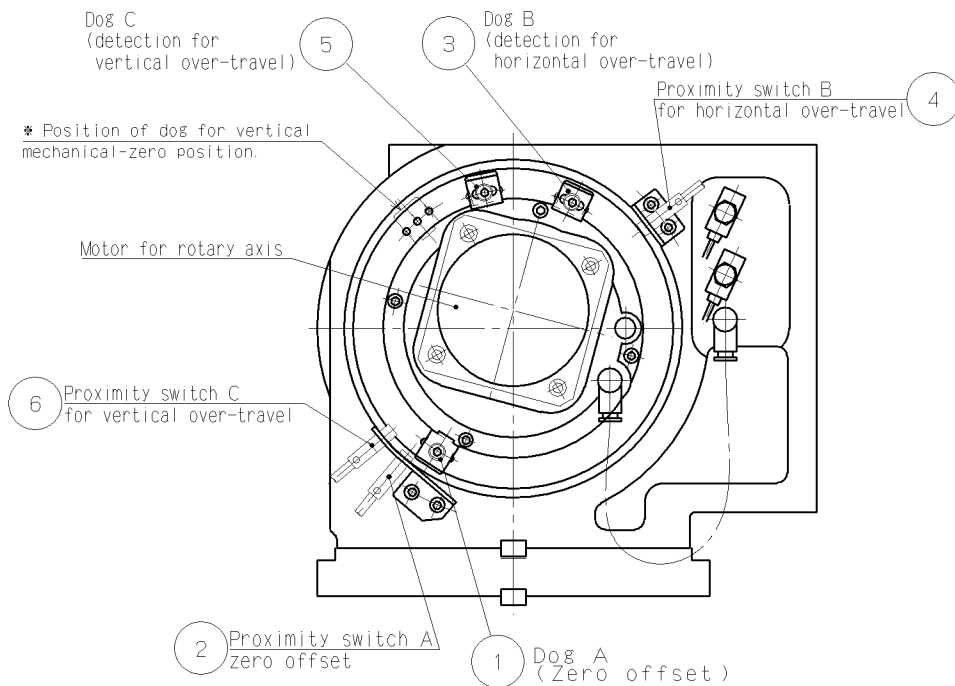

Fig 10
6-3-2 Tilting axis ZRN device (Fig.10)
- 2) The horizontal table face is the datum as the standard specification. The dog A ① of Fig.10 is detected with the proximity switch A ②.
- 3) When you change the vertical mechanical-zero position from horizontal one (standard spec).It is necessary to replace the dog ① on the * position.
6-4 The equipment for stopping the over-travel (Fig.10)
- 2) The dog B ③ of Fig.10 located on the stroke limit on the horizontal table face position is detected with the proximity switch B ④.
- 3) The dog C ⑤ located on the stroke limit on the vertical table face position is detected with the proximity switch C ⑥.